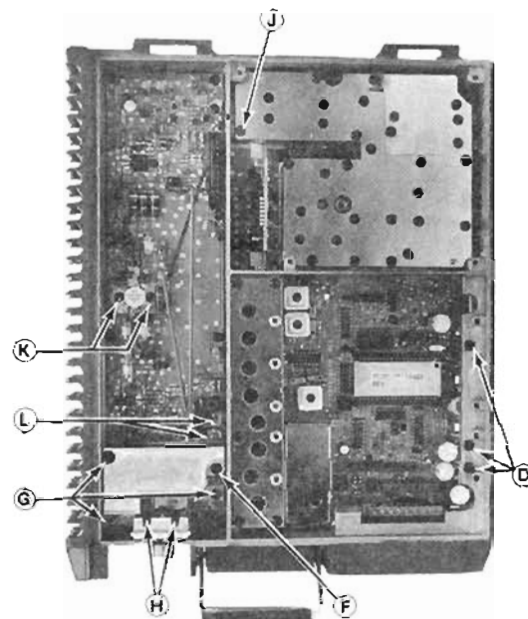

Figure 2 - Disassembly Procedure Top View
3. Remove two retaining screws (B) securing systems connector J601 to front casting.
4. Remove the two brass screws (C) securing the receiver RF shield to chassis.
5. Unsolder the two feed through capacitor terminals (E) at holes H13 and H14 on printed wire pattern.
6. Turn over the radio and remove the three retaining screws (D) (Figure 2) securing the audio bridge amplifier, U601 and U602, and the 5 and 9 volt regulators U701 and U702 to the side of chassis.